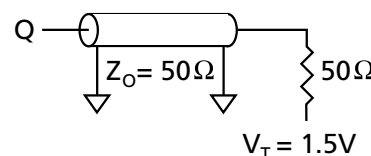
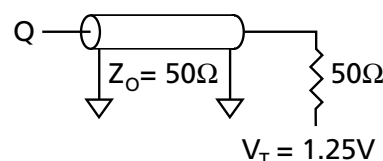

Figure 1
Figure 3
8. Test conditions as specified with output loading as shown in Figure 1 for 3.3V I/O ($V_{\text{DDQ}} = +3.3\text{V} \pm 0.165\text{V}$) and Figure 3 for 2.5V I/O ($V_{\text{DDQ}} = +2.5\text{V} + 0.4\text{V}/-0.125\text{V}$).
Output load	See Figures 1 and 2
Output load	See Figures 3 and 4